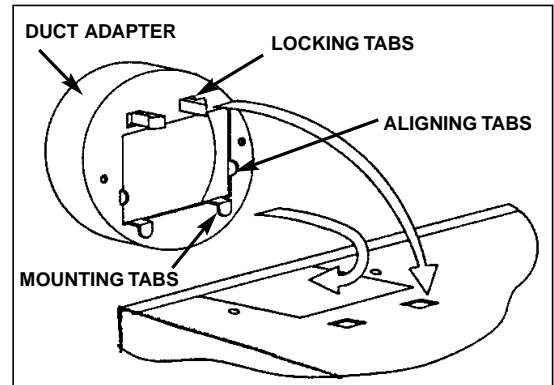

FIGURE 4
1. Attach duct adapter to housing by first hooking two mounting tabs over flange in discharge opening. Pivot duct adapter insuring aligning tabs are inside opening and align two locking tabs with small rectangular holes. See Fig. 4. Press tabs firmly into holes to lock.